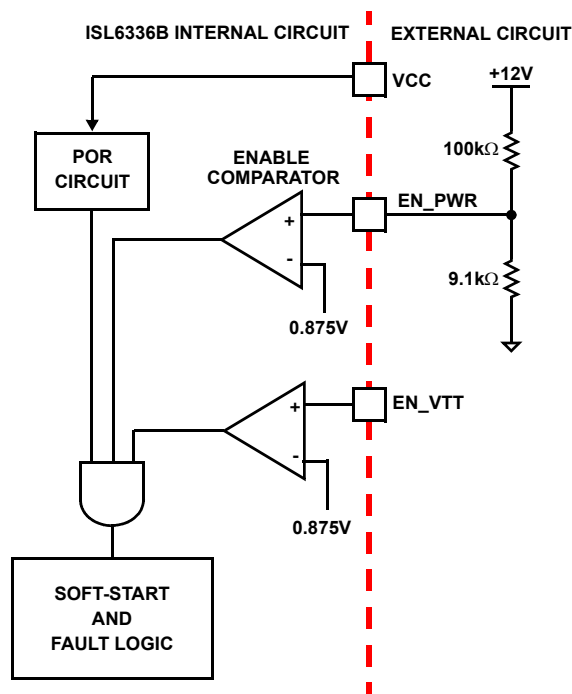

FIGURE 8. POWER SEQUENCING USING THRESHOLD SENSITIVE ENABLE (EN) FUNCTION
2. The ISL6336B features an enable input (EN\_PWR) for power sequencing between the controller bias voltage and another voltage rail. The enable comparator holds the ISL6336B in shutdown until the voltage at EN\_PWR rises above 0.875V. The enable comparator has about 130mV of hysteresis to prevent bounce. It is important that the driver ICs reach their POR level before the ISL6336B becomes enabled. The schematic in Figure 8 demonstrates sequencing the ISL6336B with the ISL66xx family of Intersil MOSFET drivers, which require 12V bias.